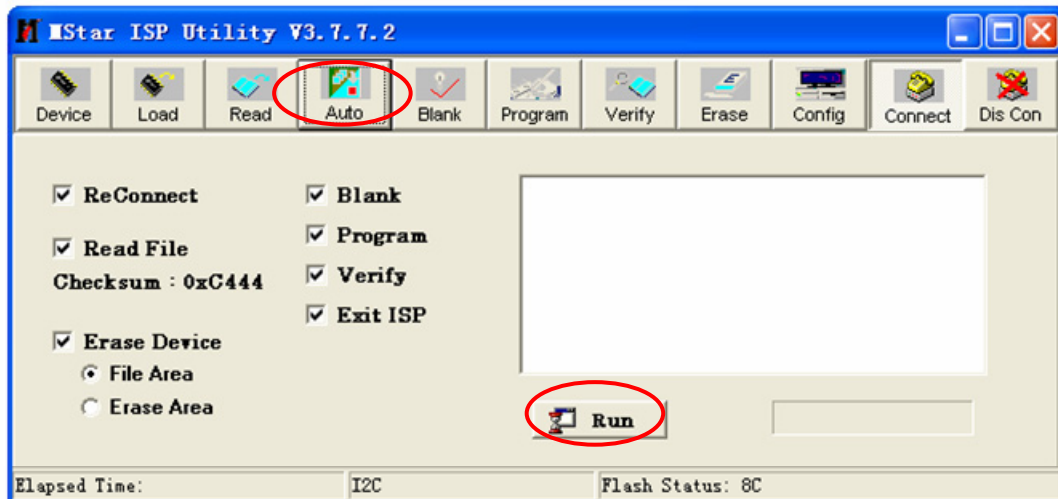

Fig.6
Step 4: Click Auto and Run, bring up Fig.6